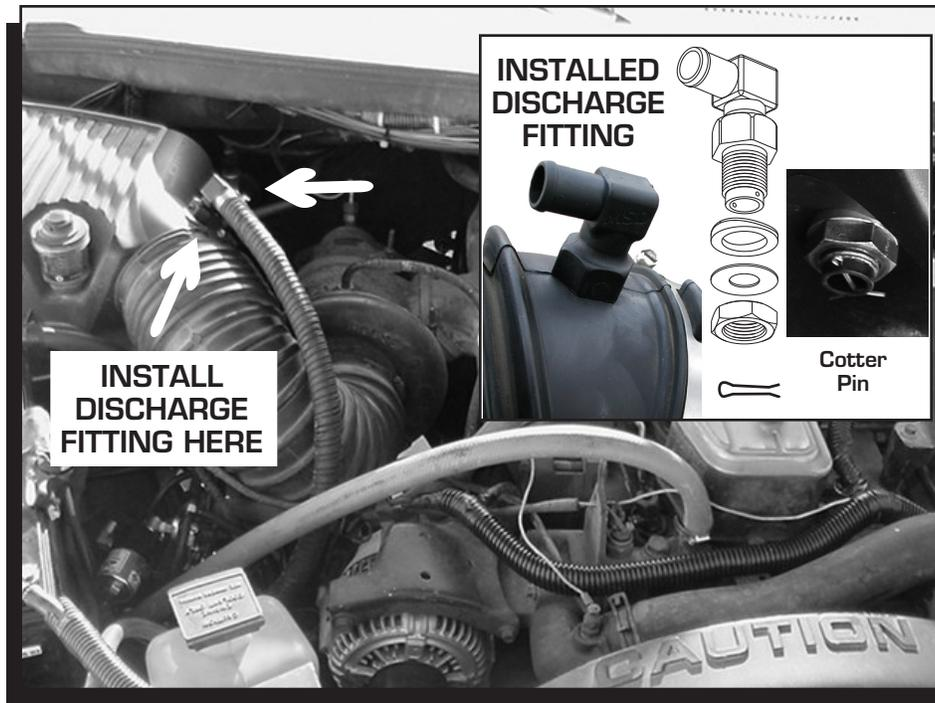

Figure 4 Installing the Propane Discharge Fitting.
2. Drill a 3/4" hole in air box assembly. No MAI Sensor on these applications (Figure 4).